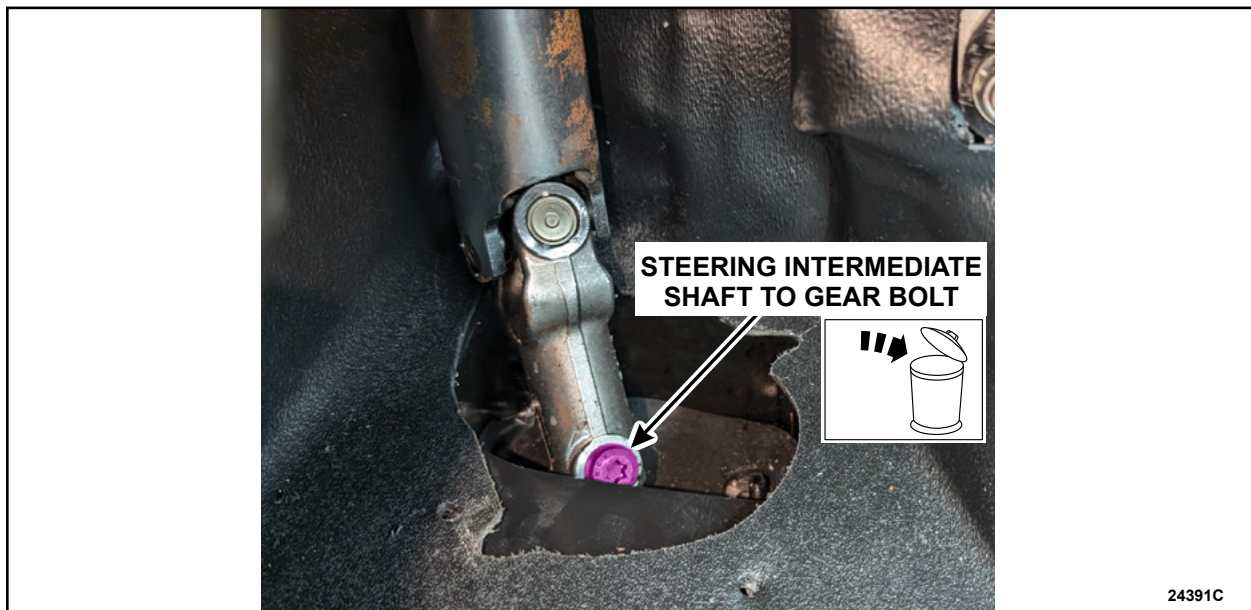

FIGURE 3
- Remove and discard the steering column shaft to steering gear bolt. See Figure 3.